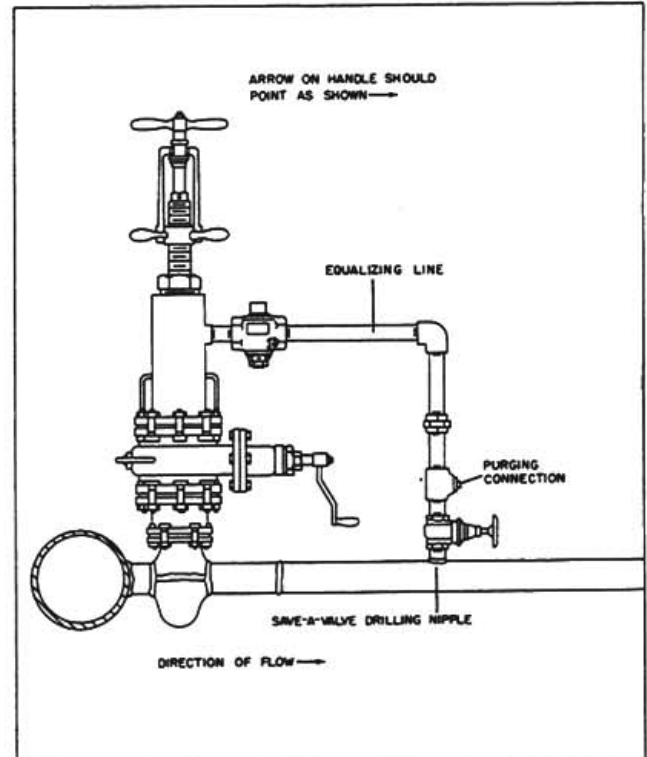

FIGURE 51
5. If using a by-pass stopper, install a save-a-valve drilling nipple on the new lateral pipe and connect this nipple with the stop on the by-pass connection in the stopping machine to form an equalizing line. **Figure 51.**